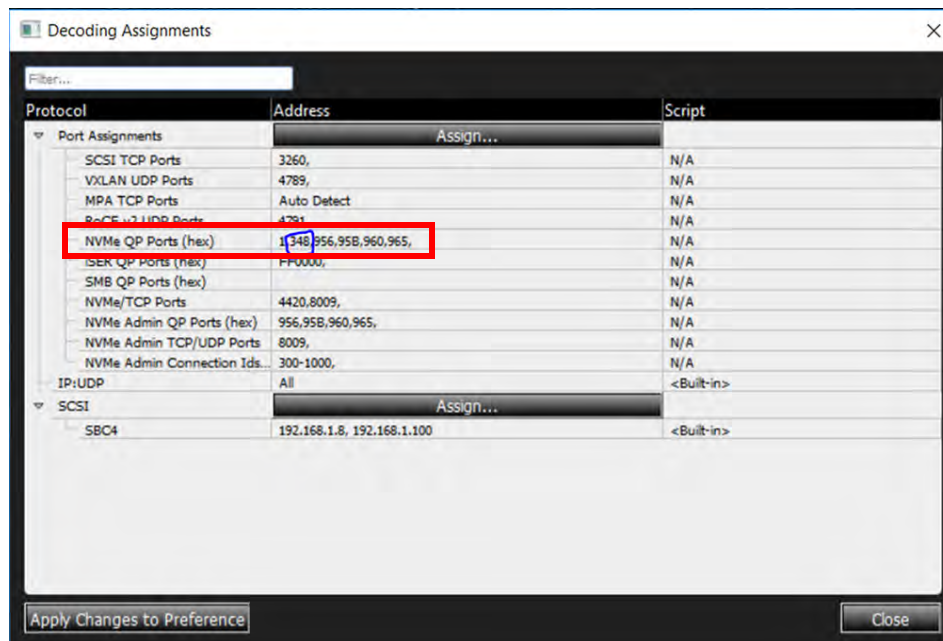

Figure G.8: Decoding Assignments Window
4. Add the Hex 348 to the line “NVMe QP Ports (hex)” field as shown in Figure G.8.